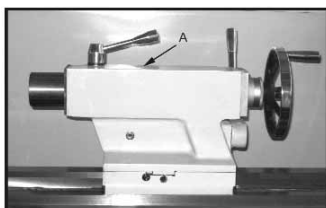

Fig. 8
- Tailstock**: Lubricate one ball oiler (A, Fig. 8) on top of tailstock with Mobil DTE® Oil Heavy Medium oil daily.